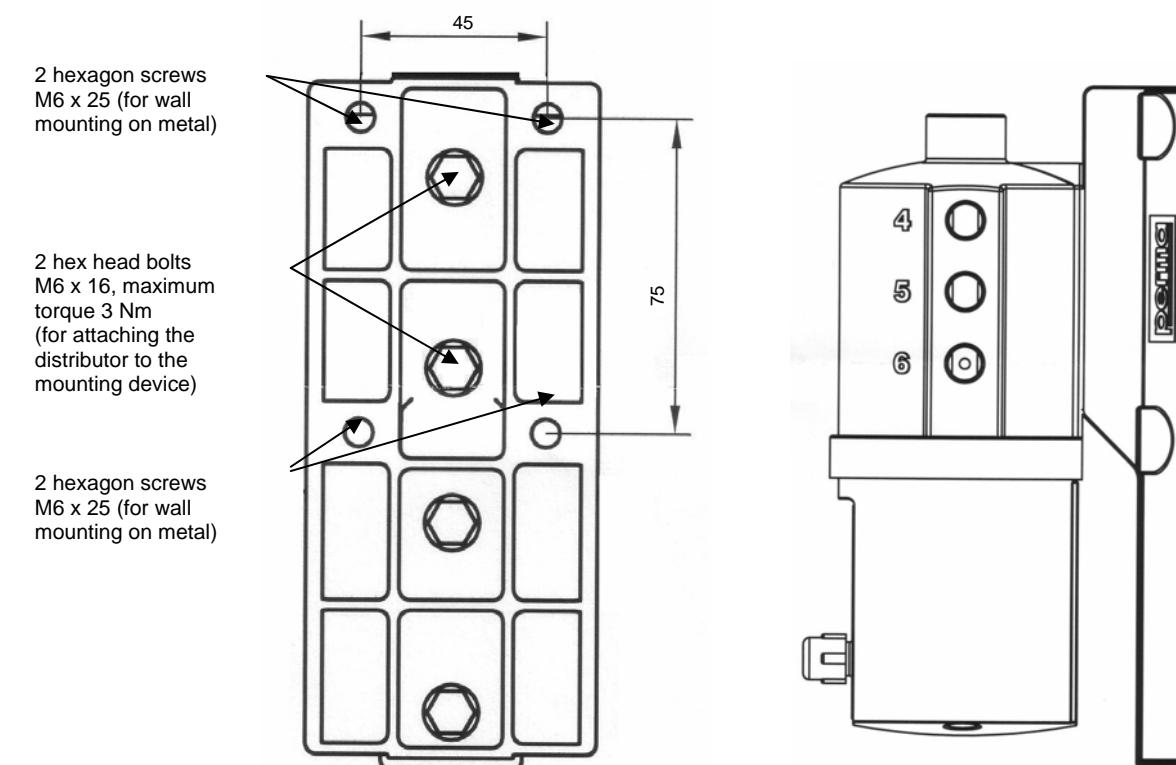

Figure 7
- ◆ Screw the mounting device with the distributor onto a support of your system. For the bore position of the four fixing screws refer to figure 7 below. At least four hexagon screws M6 x 25 must be used (e.g. on metal ground).